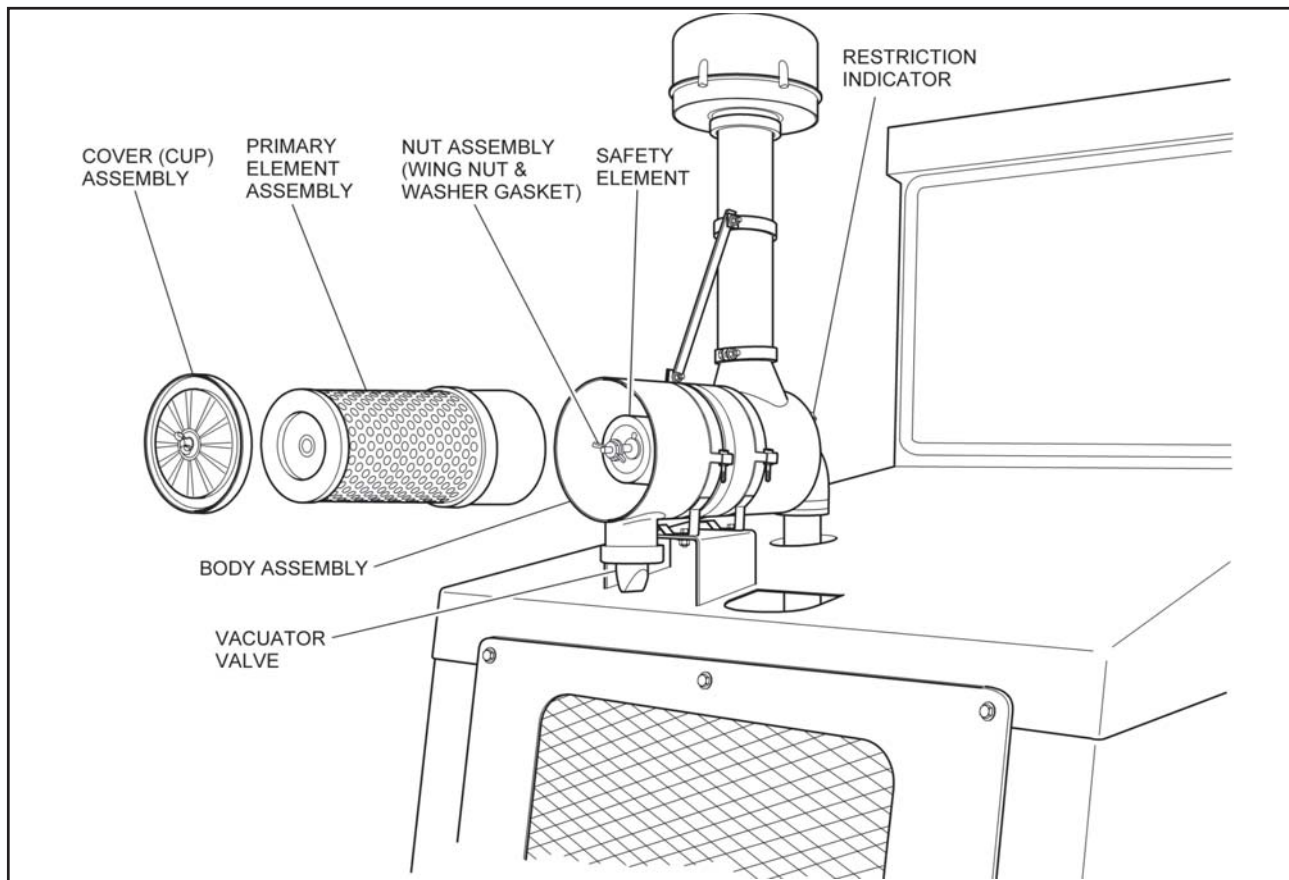

FIGURE 4-3. ENGINE AIR CLEANER ASSEMBLY
The heavy-duty engine air cleaner is mounted on top of the hood. A restriction indicator is mounted on the outlet side of the air cleaner assembly housing, near the large inlet tube to the engine (Figure 4-3).
2. Inspect the restriction indicator several times daily during operation (Figure 4-3). If the red indicator flag on the restriction indicator is visible, the air cleaner element must be replaced.